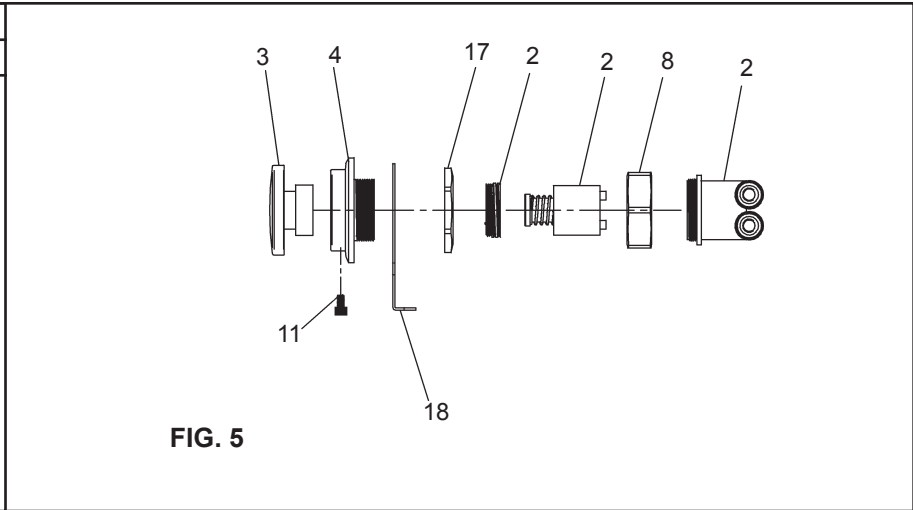

FIG. 5
- 9. Check stream height from bubbler.** Stream height is factory set at 35 PSI. If supply pressure varies greatly from this, adjust the screw on regulator item 10 by using a small screwdriver through the small hole in the push button item 3 (See Fig.5). Clockwise adjustment will raise stream height and counter-clockwise adjustment will lower stream height. For best adjustment stream should hit basin approximately 6-1/2" (165mm) from bubbler.